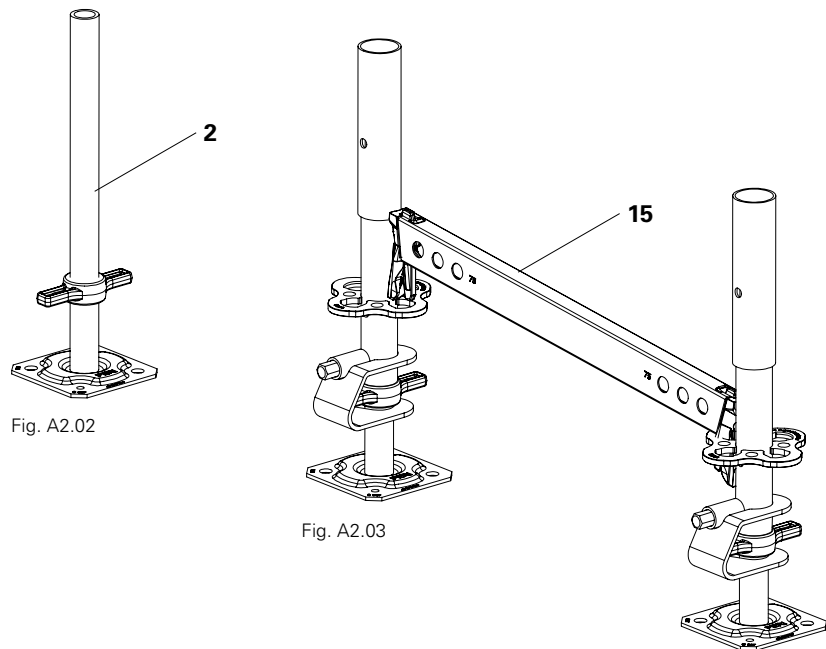

Fig. A2.03
3. Set up another base pair and connect with Ledger UH-2. (Fig. A2.03)